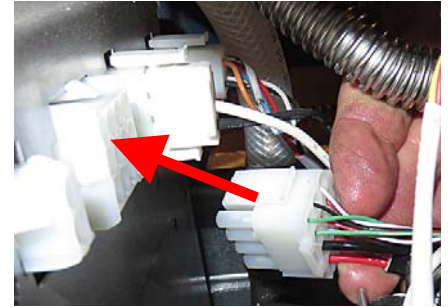

Figure 75
73. Connect the 12-pin connector to the rear of the FIB (ATO) box (see Figure 75).